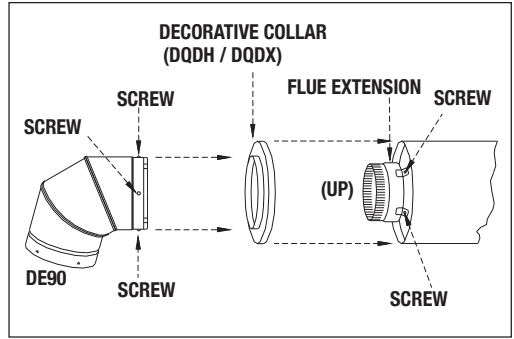

Figure 4
5. Use an adjustable (DL3A) or fixed length (DL) of stove pipe horizontally between the 90° elbow (DE90) and chimney. Attach this length to the elbow. Fix a decorative collar to the chimney and secure the connector pipe to the chimney flue extension using 3 metal screws (see figure 4).
7. If you wish, you may cover the joint between the chimney and the chimney connector, using a trim collar. (DQ)